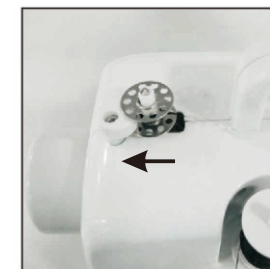

Fig.13
3. Put the bobbin on the bobbin winder pin, wind thread clockwise around bobbin several times. (Fig.13)